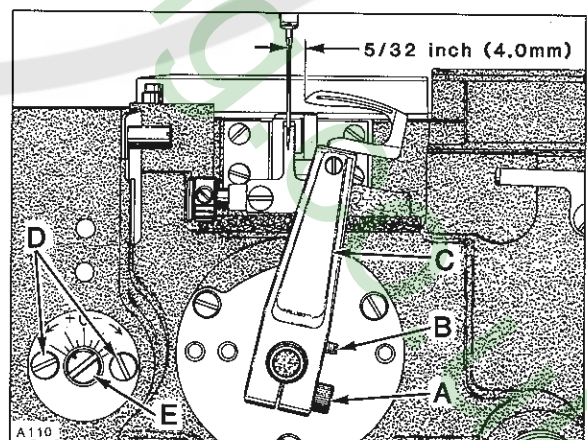

Fig. 7
Insert a new needle, type and size specified. With looper positioned at EXTREME right end of travel, distance from centerline of needle to point of looper should be 5/32 inch (4.0mm). Adjustment can be made by loosening screw (A, Fig. 7) and turn screw (B) clockwise to increase looper gauge or counterclockwise to decrease. Apply pressure to the upper portion of looper holder (C) to the left while making this adjustment and locking with screw (A). Looper gauge No. 21225-5/32 can be used advantageously while making this adjustment. Looper must also be set so, as it travels to the left behind the needle, NOT to touch, but with a MAXIMUM clearance of .005 inch (.127mm). Adjustment can be made by loosening screw (A) and moving looper holder (C) forward or rearward on its shaft to obtain specified conditions; apply pressure to the upper portion of looper holder to the left while tightening screw (A).
Machine is equipped with a quick adjustable looper avoid mechanism to accommodate extreme differences in needle sizes. If looper avoid requires re-setting, loosen two screws (D, Fig. 7) and turn eccentric stud (E) towards the plus side (counterclockwise) for MORE looper avoid or towards the minus side (clockwise) for LESS looper avoid. When desired setting is acquired, tighten screws (D).